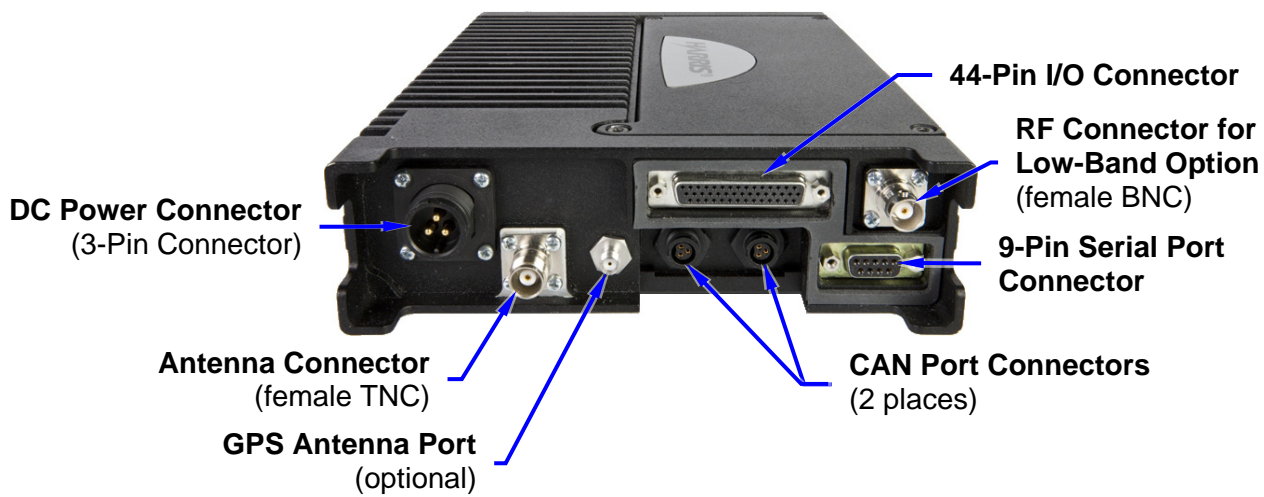

Figure 4-2: Unity XG-100M Front-Mount and Remote-Mount Mobile Radios — Front and Rear Views
- **CH-721 System Model Control Head**— Figure 4-2 on page 15 illustrates the CH-721 System model control head in a front-mount configuration. This head is very similar to the CH-721 Scan model control head. It has an identical 3-line graphical vacuum-fluorescent display. Also, front panel controls are identical to those on the Scan model control head with the exception of the 12-key keypad and smaller menu-related buttons. The 12-key numeric keypad provides Dual-Tone Multi-Frequency (DTMF) functionality and advanced operator system/group selection control via the control head's front panel. Figure 4-6 on page 19 details all front panel components.